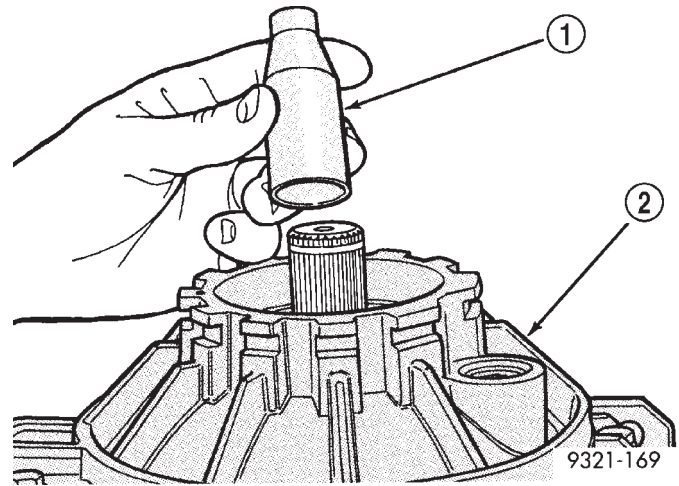

Fig. 428 Seal Protector
(54) Install seal protector (special tool 6591) on shaft (Fig. 428).